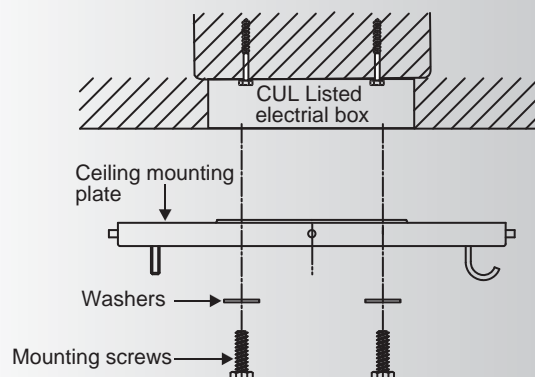

Fig. 4
Step 1. Secure the ceiling mounting Plate to the ceiling outlet box using screws and washers included with your outlet box. (Fig. 4)